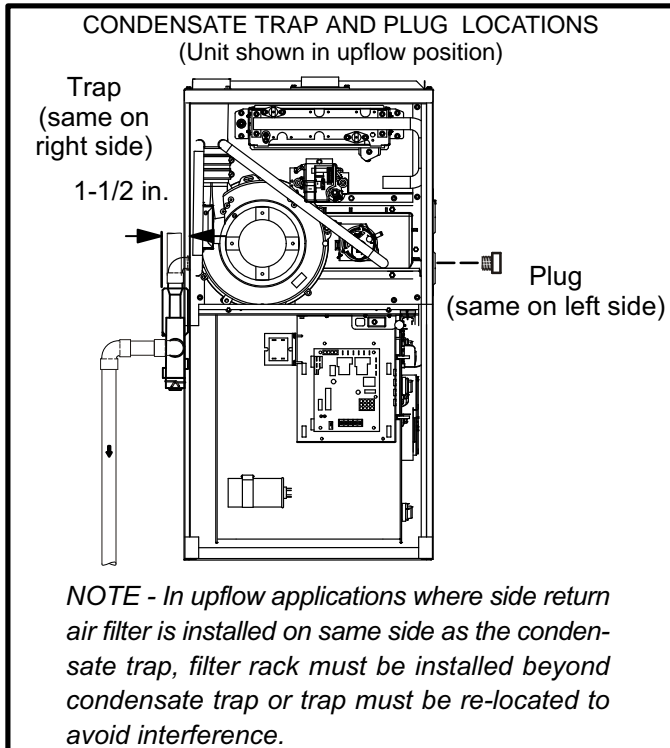
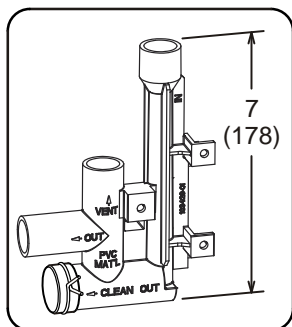

FIGURE 46
FIGURE 54
This unit is designed for either right- or left-side exit of condensate piping in upflow applications. In horizontal applications, the condensate trap must extend below the unit. An 8" service clearance is required for the condensate trap. Refer to figures 46 and 48 for condensate trap locations. Figure 54 shows trap assembly using 1/2" PVC or 3/4" PVC.
- 2 - Use a large flat head screw driver or a 1/2" drive socket extension and remove plug (figure 46) from the cold end header box at the appropriate location on the side of the unit. Install provided 3/4 NPT street elbow fitting into cold end header box. Use Teflon tape or appropriate pipe dope.
- 3 - Install the cap over the clean out opening at the base of the trap. Secure with clamp. See figure 54.
- 4 - Install drain trap using appropriate PVC fittings, glue all joints. Glue the provided drain trap as shown in figure 54. Route the condensate line to an open drain. Condensate line must maintain a 1/4" downward slope from the furnace to the drain.